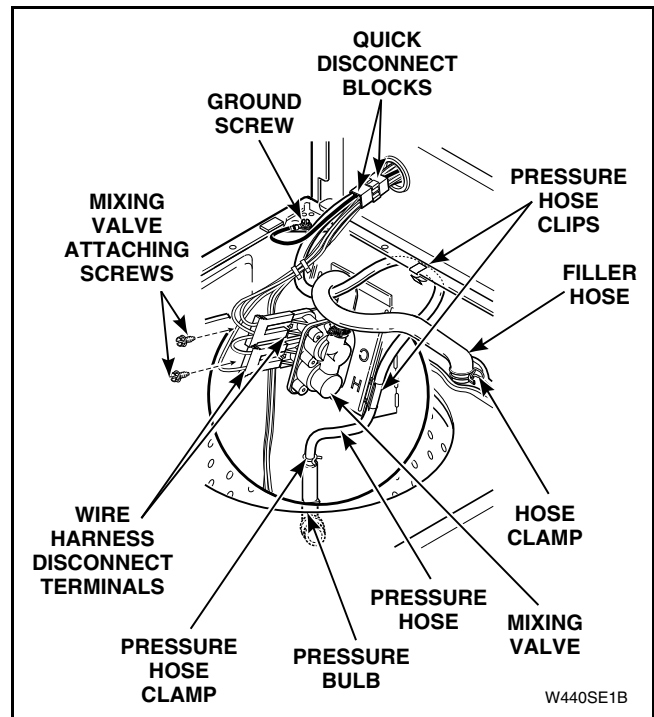

Figure 44
- e. Remove screw(s) holding mixing valve to mounting bracket at rear of washer cabinet. Refer to *Figure 44*.
- f. Pull mixing valve out toward front of washer far enough to permit disconnecting water inlet and fill hoses from mixing valve. Refer to *Figure 44*.
- g. Remove wires and quick disconnect blocks from mixing valve solenoid terminals. Refer to *Figure 44*.